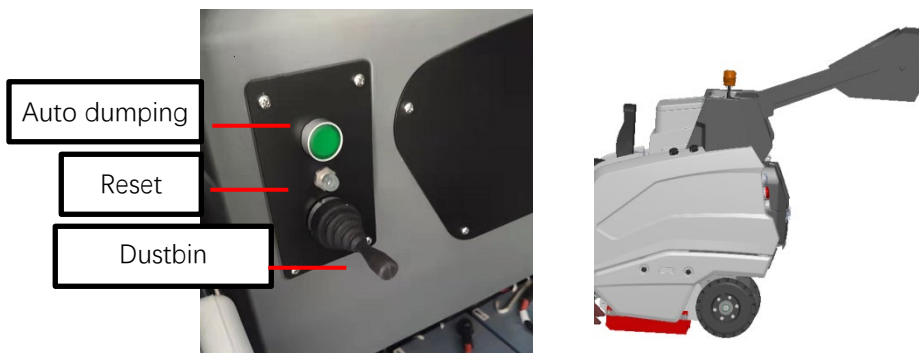

Fig. 22
1. Press the hydraulic button  on the control panel (effective within one minute after it is pressed), then operate the hydraulic lifting and lowering rocker at the right rear of the seat. Lift it up to control the lifting height of the dustbin, or lift it to the limit height of the hydraulic cylinder, then press the dump button separately until the dustbin turns over, and release the button as shown in Fig. 22.